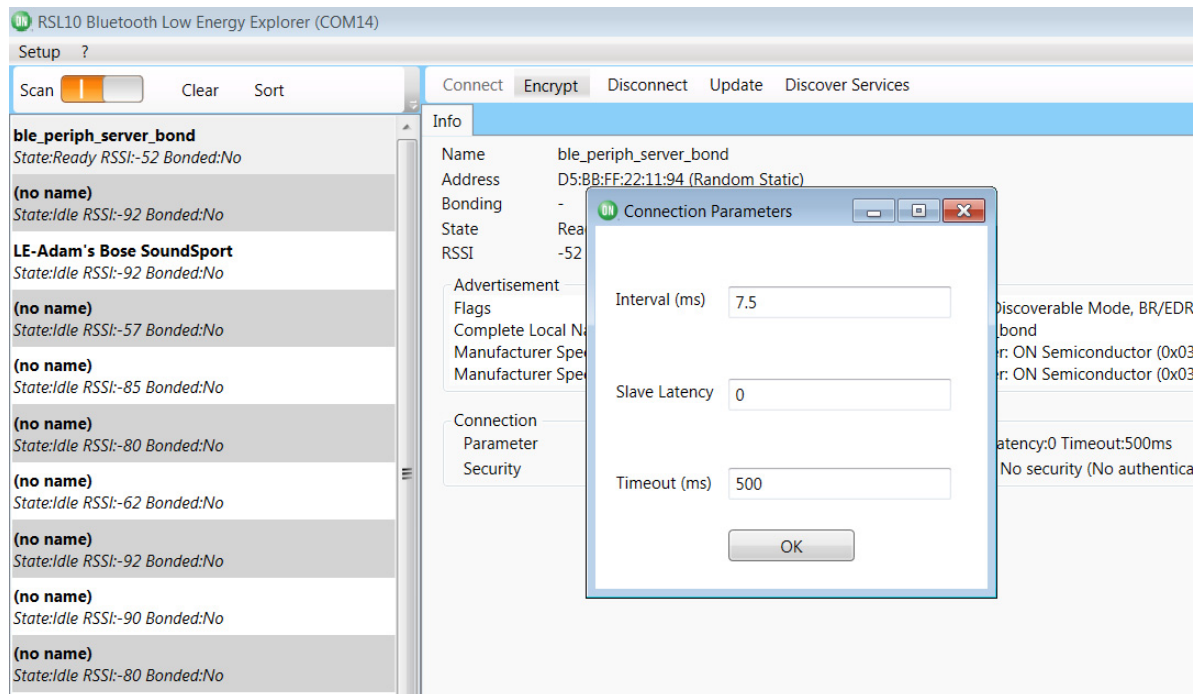

Figure 9. Connection Parameter Window Update
1. Initial connection parameter settings before connecting to the device. For a description of the parameter settings, see Figure 9.
Alternatively, you can update the connection parameters while connected, using the **Update** button in the Services tab, which is shown in Figure 9.
In Figure 9: